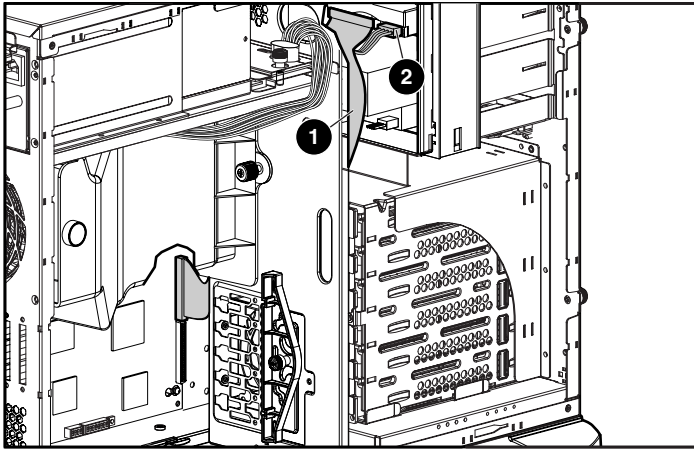

Figure 3-14: Connecting the data and power cables
7. Connect the data cable into a SCSI controller channel (secondary SCSI channel shown in Figure 3-14).